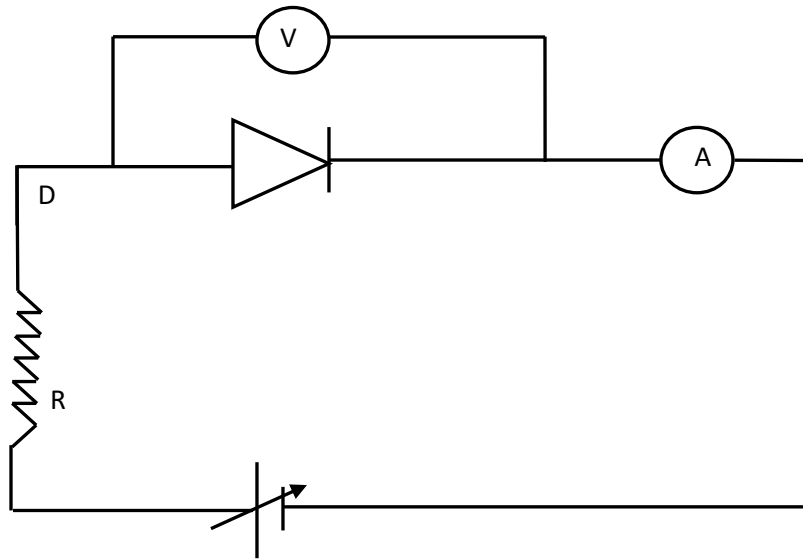

Figure 6.3: Forward Biasing of PN Junction Diode
1. Connect the components as shown in the Fig.6.3.